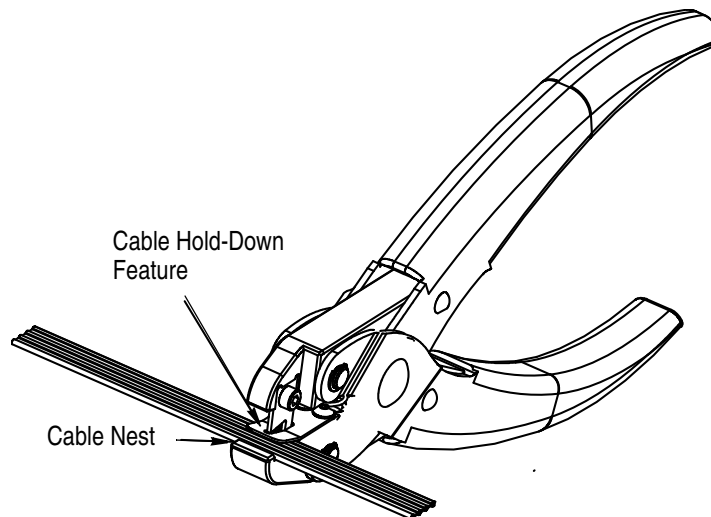

Figure 3
4. NOTCHING THE CABLE (Figure 3)
1. Place the ribbon cable under the cable hold-down feature and into the cable nest (Figure 3).